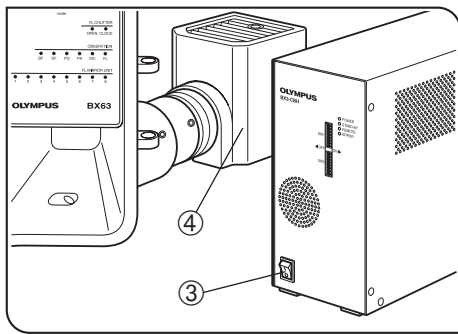

Fig. 2
4. To avoid potential shock hazards and burns when replacing the halogen bulb, set the main switch ③ to "●" (OFF) and allow the lamp housing ④ and bulb to cool before touching them (Fig. 2).